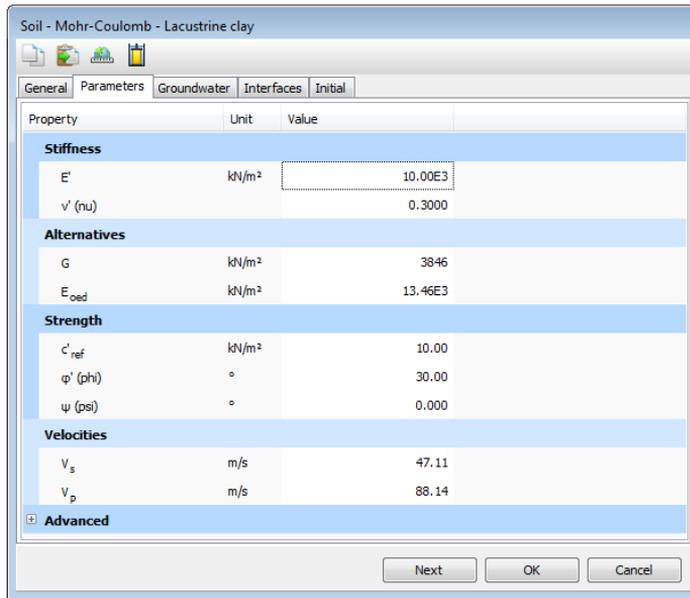

Figure 1.7 Parameters tabsheet of the *Soil and interfaces* data set window
- Enter the model parameters E' , ν' , c'_{ref} , φ' and ψ of *Lacustrine clay* according to Table 1.1 in the corresponding boxes of the *Parameters* tabsheet (Figure 1.7).